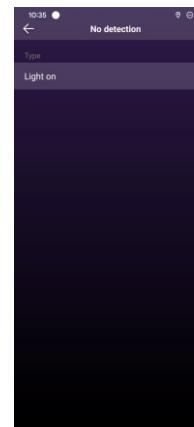

Figure 42
Step 5: Tap the action under "No detection" to set a triggered action when no motion is detected (As shown in **Figure 38 & Figure 42**). Available actions which can be triggered depends on the light device type, the example device is an RGBW device, available actions are: Light on, Light off, Scene, All attributes, Brightness, RGB, White (As shown in **Figure 43**). Here we choose Brightness, and the set the triggered brightness as 20% (As shown in **Figure 44**).